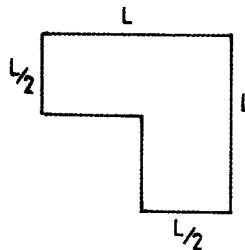

FIGURE 1
- (b) Figure 1 shows an outline plan of a building.